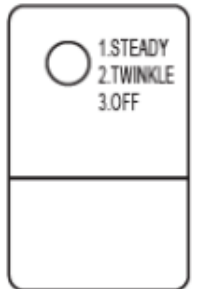

Figure 4
2. Push the button on the main control box until all lights are turned off. You are now in "off" mode (See Figure 4).
3. Push the button on the main control box two (2) more times to put the Buck in "Twinkle" mode.